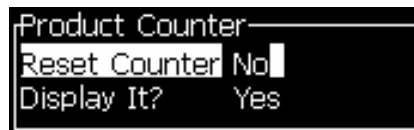

Figure 4-16: Product Counter Dialog Box
- 3 Press the *Enter* key to open the product counter dialog box (see Figure 4-16).